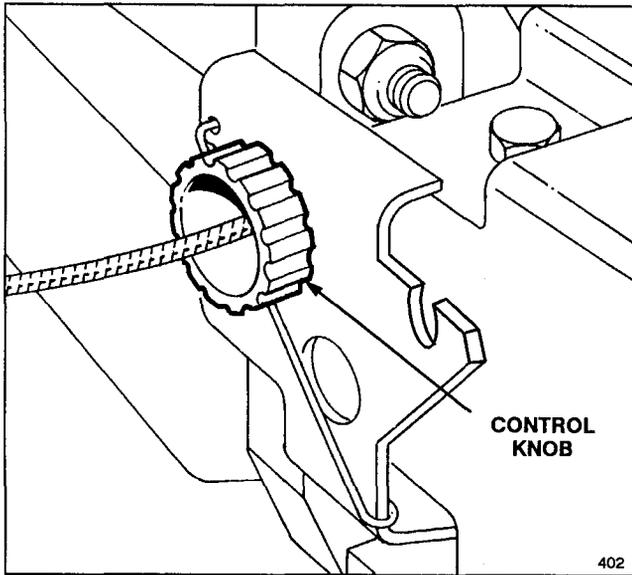

Figure 20
1. ADJUSTMENT (Fig. 20)—Rotate control knob clockwise 1/2 turn if mower does not self-propel. If mower creeps forward, rotate knob 1/2 turn counterclockwise to loosen belt.